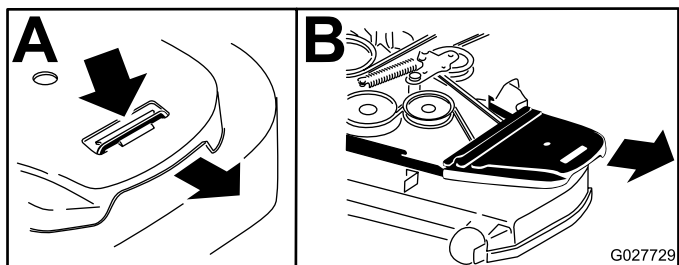

Figure 59
7. Remove the belt covers (Figure 59).